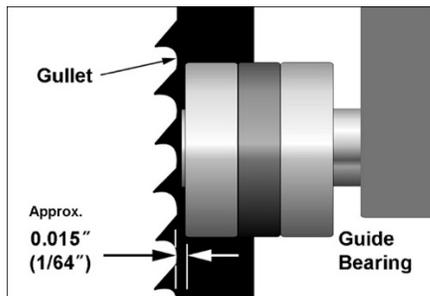

Figure 29: guide bearing position
5. Move entire guide bracket by rotating knurled knob (B) until front of guide bearings are about 0.015" (1/64") behind blade gullet (curved area at base of tooth). See Figure 29.